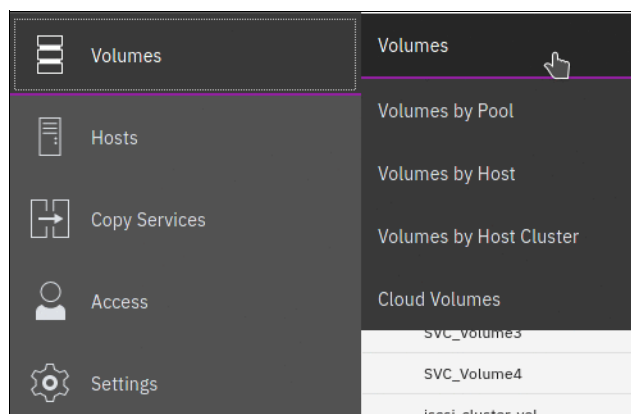

Figure 6-26 Volumes menu
1. In the IBM Spectrum Virtualize GUI, select **Volumes** → **Volumes**, as shown in Figure 6-26.